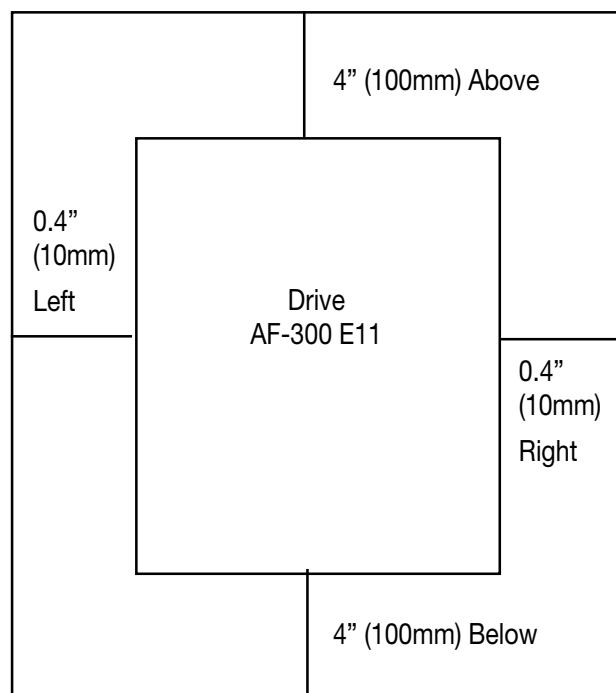

Figure 2-2-1
- (1) Securely mount the drive in the upright position on a rigid structure so that the “AF-300 E11” characters face front. Avoid mounting the drive upside down or horizontally.
- (2) Allow clearances for cooling as shown in Fig. 2-2-1. This allows the drive, which generates heat during operation, to cool. The generated heat is radiated upward. Do not install the drive below a heat sensitive device.
- (3) The temperature of the heat sink rises to about 90 degrees C during operation of the drive. Mount the drive on a base made of a material able to withstand the temperature rise.